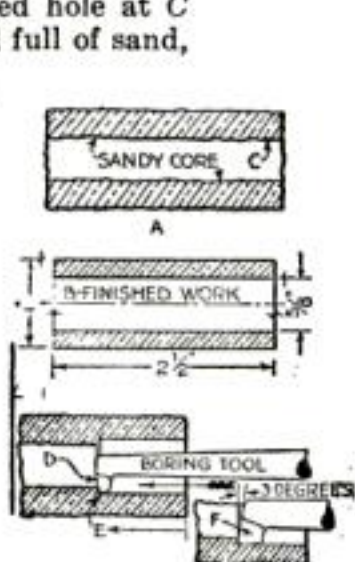

Fig. 1. Solving a boring problem by grinding the tool correctly
**T**HE foreman gave me 24 bronze bushings (A, Fig. 1) and told me to bore, face, and turn them to the sizes shown at B. The cored hole at C was small, rather rough, and full of sand, as I soon found out when I put a tool into it.